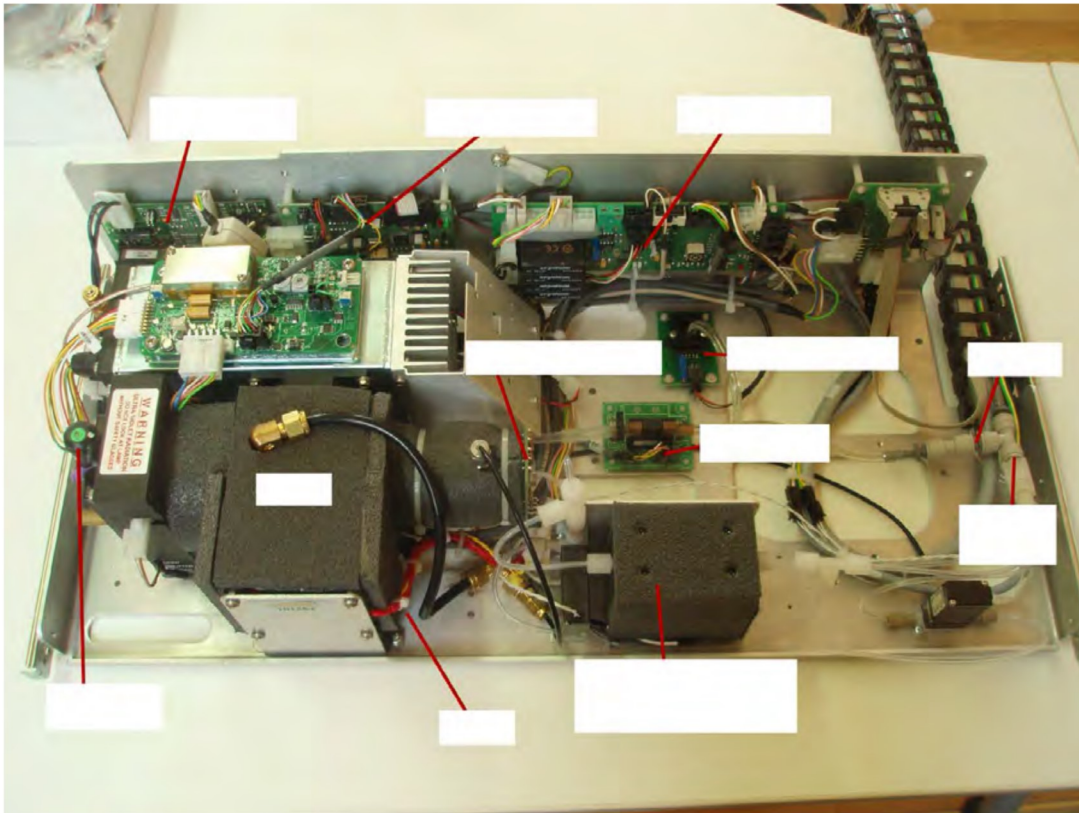

Figure 11.29.: Complete SO₂ Bench
2. Locate the SO₂ module (see Figure 11.29) with the UV lamp inside the airpointer® (see Figure 5.12, front part of Section B).